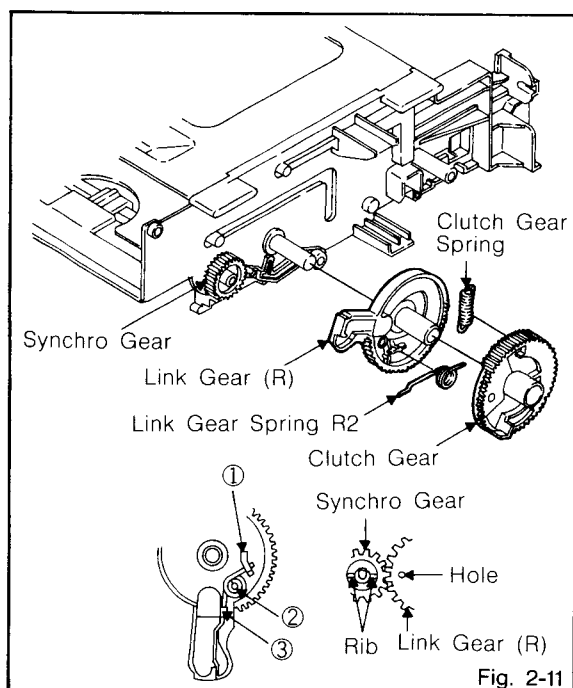

Fig. 2-11
2-11: LINK GEAR (R) / CLUTCH GEAR (Refer to Fig. 2-11)
2. Remove the Link Gear (R) and Clutch Gear.
1. When installing the Link Gear Spring R2 on the Link Gear (R), proceed in order ①, ②, ③ as shown in Fig. 2-11.
2. When installing the Link Gear (R), match the position of the Link Gear (R) so that the line over the two ribs on the Synchro Gear goes through the marking hole on the Link Gear (R).